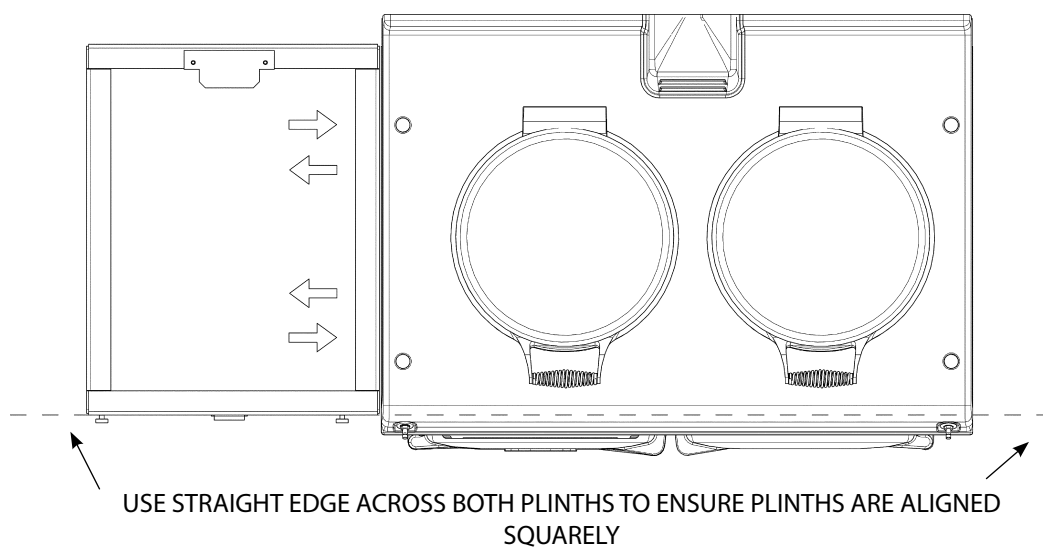

Fig. 3.5
4. Run a straight edge along the front of the AGA eR7 plinth, to ensure the front face of both plinths sit squarely against the straight edge. (**Fig. 3.5**)